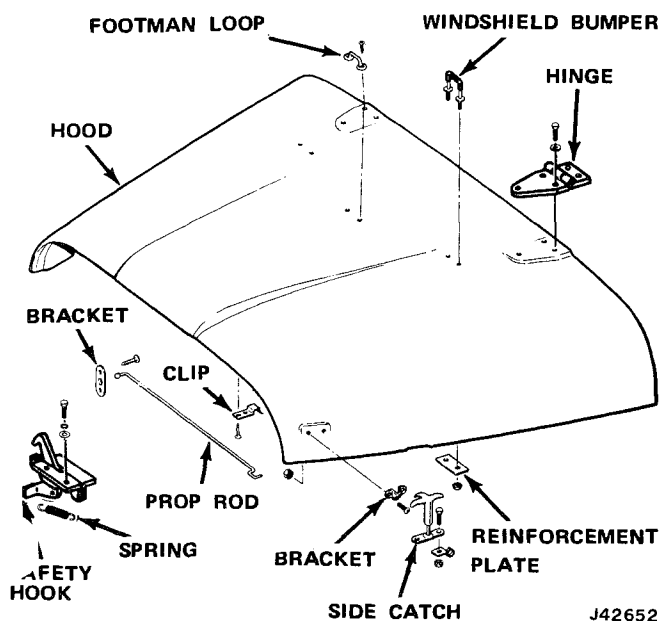

Fig. 3G-1 Hood and Related Parts—CJ Models
- (1) Mark position of hinges on their respective mounting panels before removing hood.
- (2) Detach hood panel from hinges by removing attaching screws, lockwashers, and flat washers.
- (3) Disassembly of CJ hood is accomplished by removing hood prop rod, hood prop rod retainer clip, hood side catch brackets, footman loop, and windshield bumpers (fig. 3G-1).